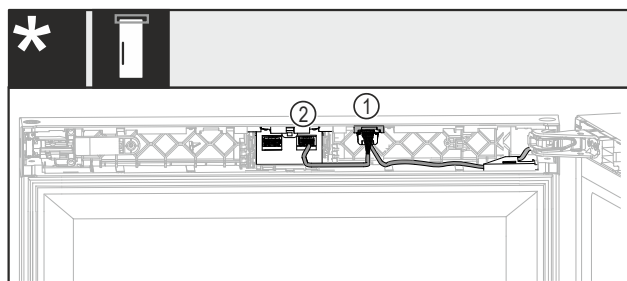

Fig. 31 Without lock or with mechanical lock
- Insert the plug with both cables Fig. 31 (1) into the guide.
- Engage the plug with a cable Fig. 31 (2) in the right-hand retaining clip.